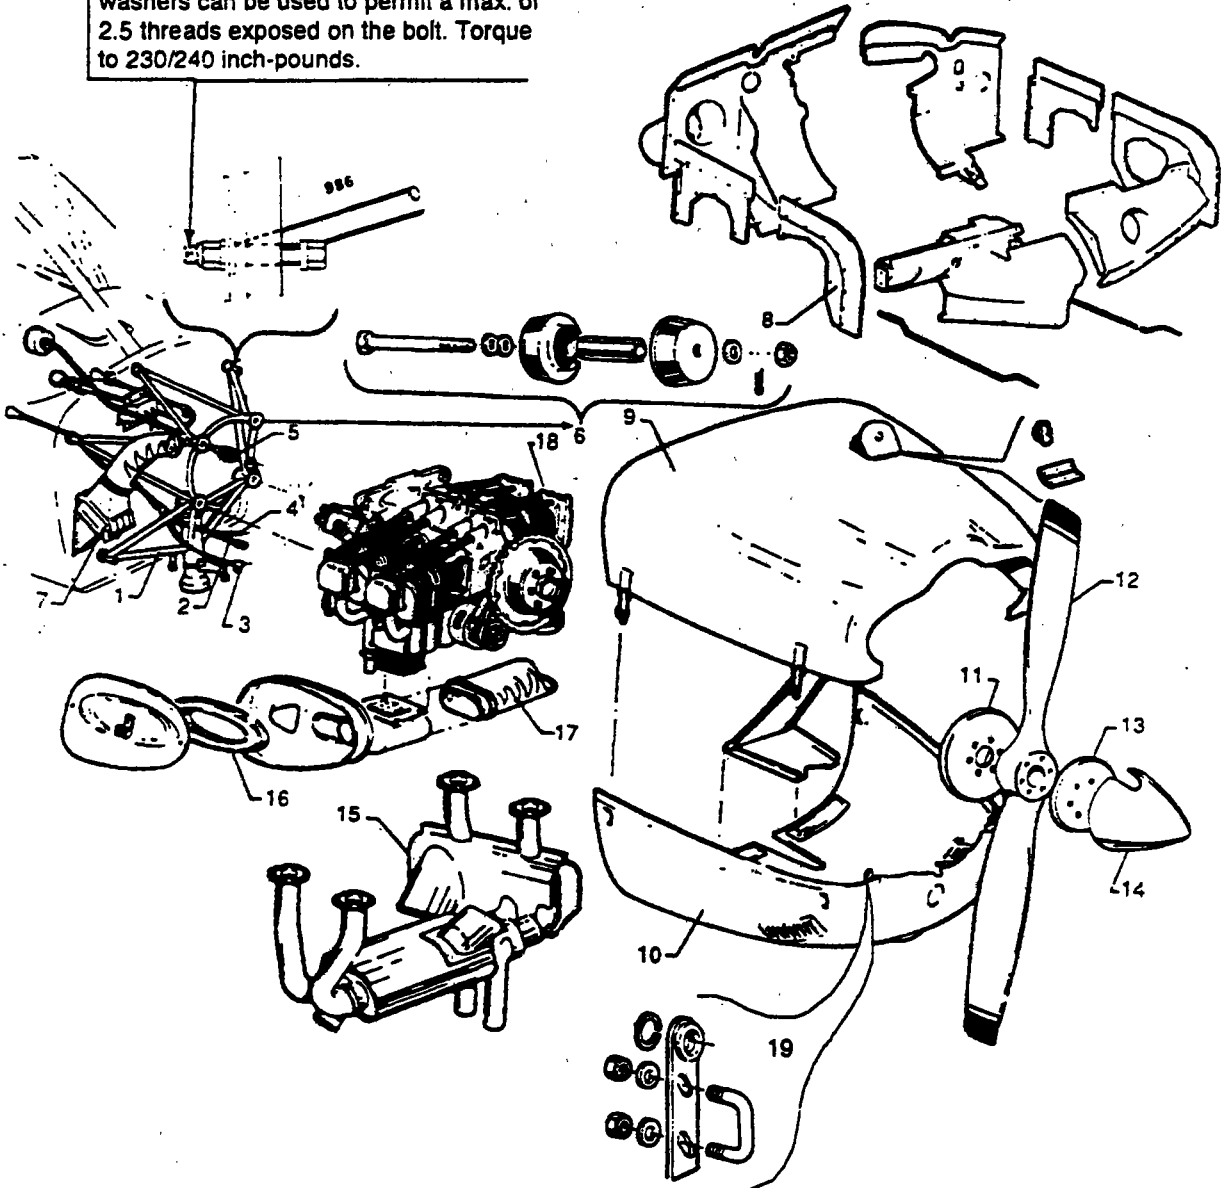

Figure 8-7. Engine Installation
- With cowlings removed, locate bushings on lower cowling. (See Figure 8-7.)